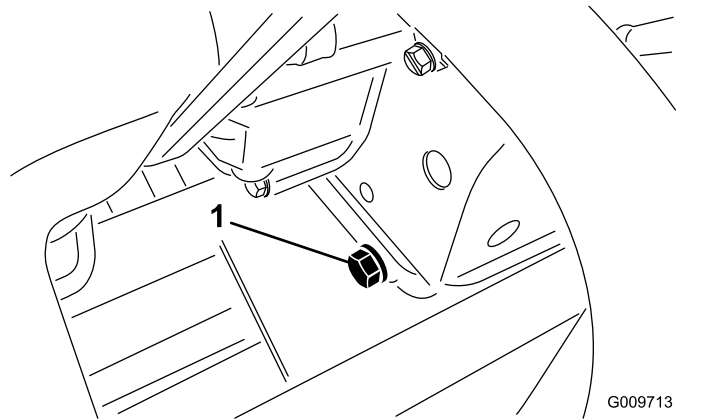

Figure 89
2. Remove the drain plug (Figure 89) and let the oil flow into a drain pan.